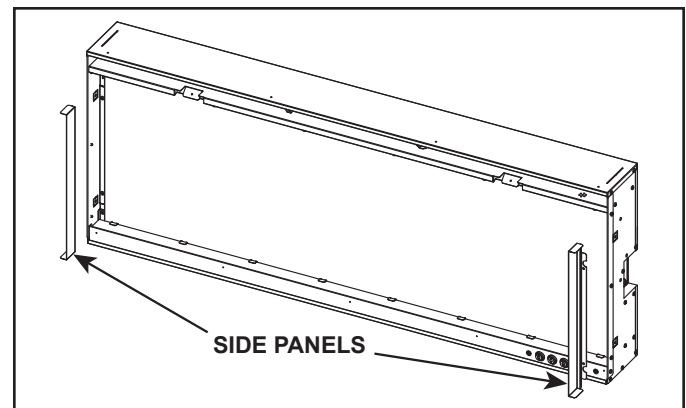

Figure 2 Remove Side Panels
3. Remove right and left magnetic side panels by using the notches to pull each side panel out, dislodging the magnets from the appliance. See Figure 2.